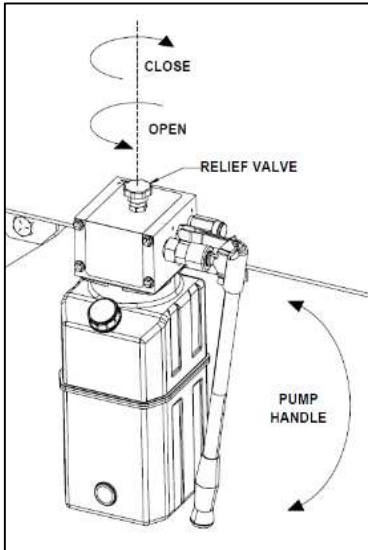

Figure 5. Pump Detail
1. Close the pump relief valve by turning knob clockwise (see Figure 5).